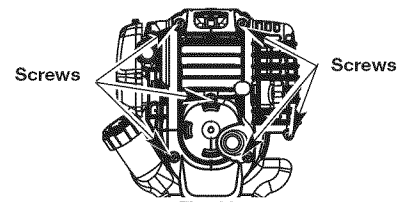

Fig. 30
- Remove the six (6) screws on the back of the engine cover with a Flat-head or T-25 Torx screwdriver (Fig. 30).
- Remove the engine cover (Fig. 30).
1. Stop the engine and allow it to cool. Remove the six (6) screws on the back of the engine cover with a Flat-head or T-25 Torx screwdriver (Fig. 30).